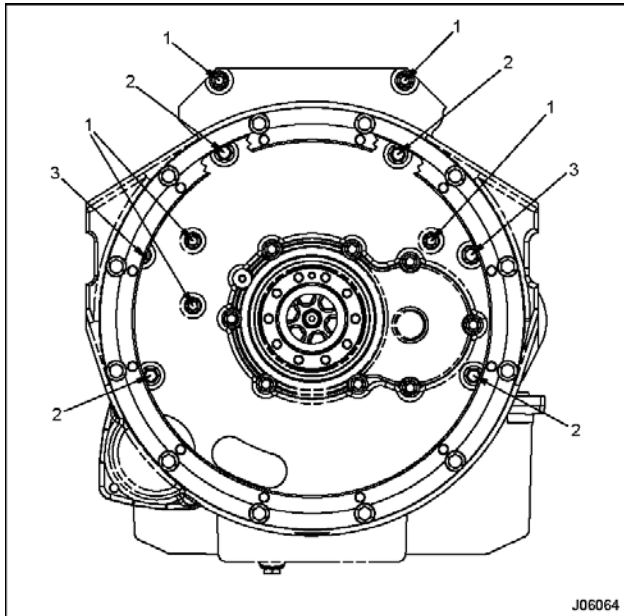

Figure 413 Rear cover bolt arrangement (stripped chassis)
| 1. Bolt, M8 x 55 (5), Refer to (Figure 413) | 8. Rear seal carrier gasket | 16. Flywheel assembly |
1. Stripped Chassis – Remove necessary rear cover mounting bolts. Refer to (Figure 413) for rear cover bolt pattern.